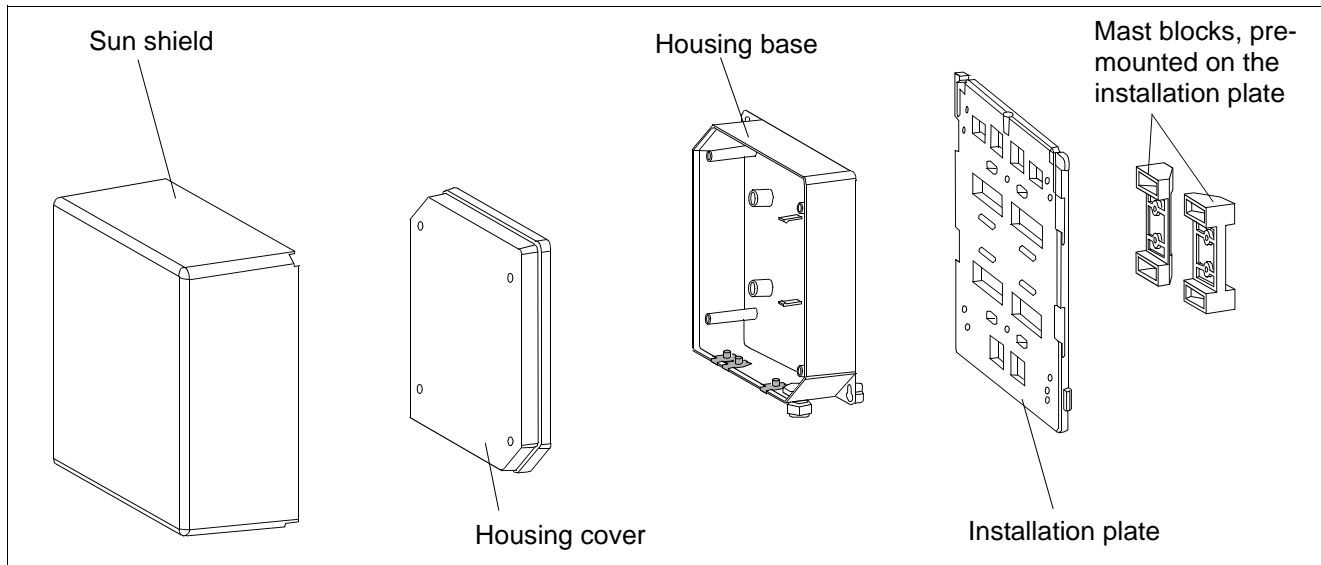

Figure 16 Components for outdoor installation
- Figure 16 shows the components of the outdoor housing.